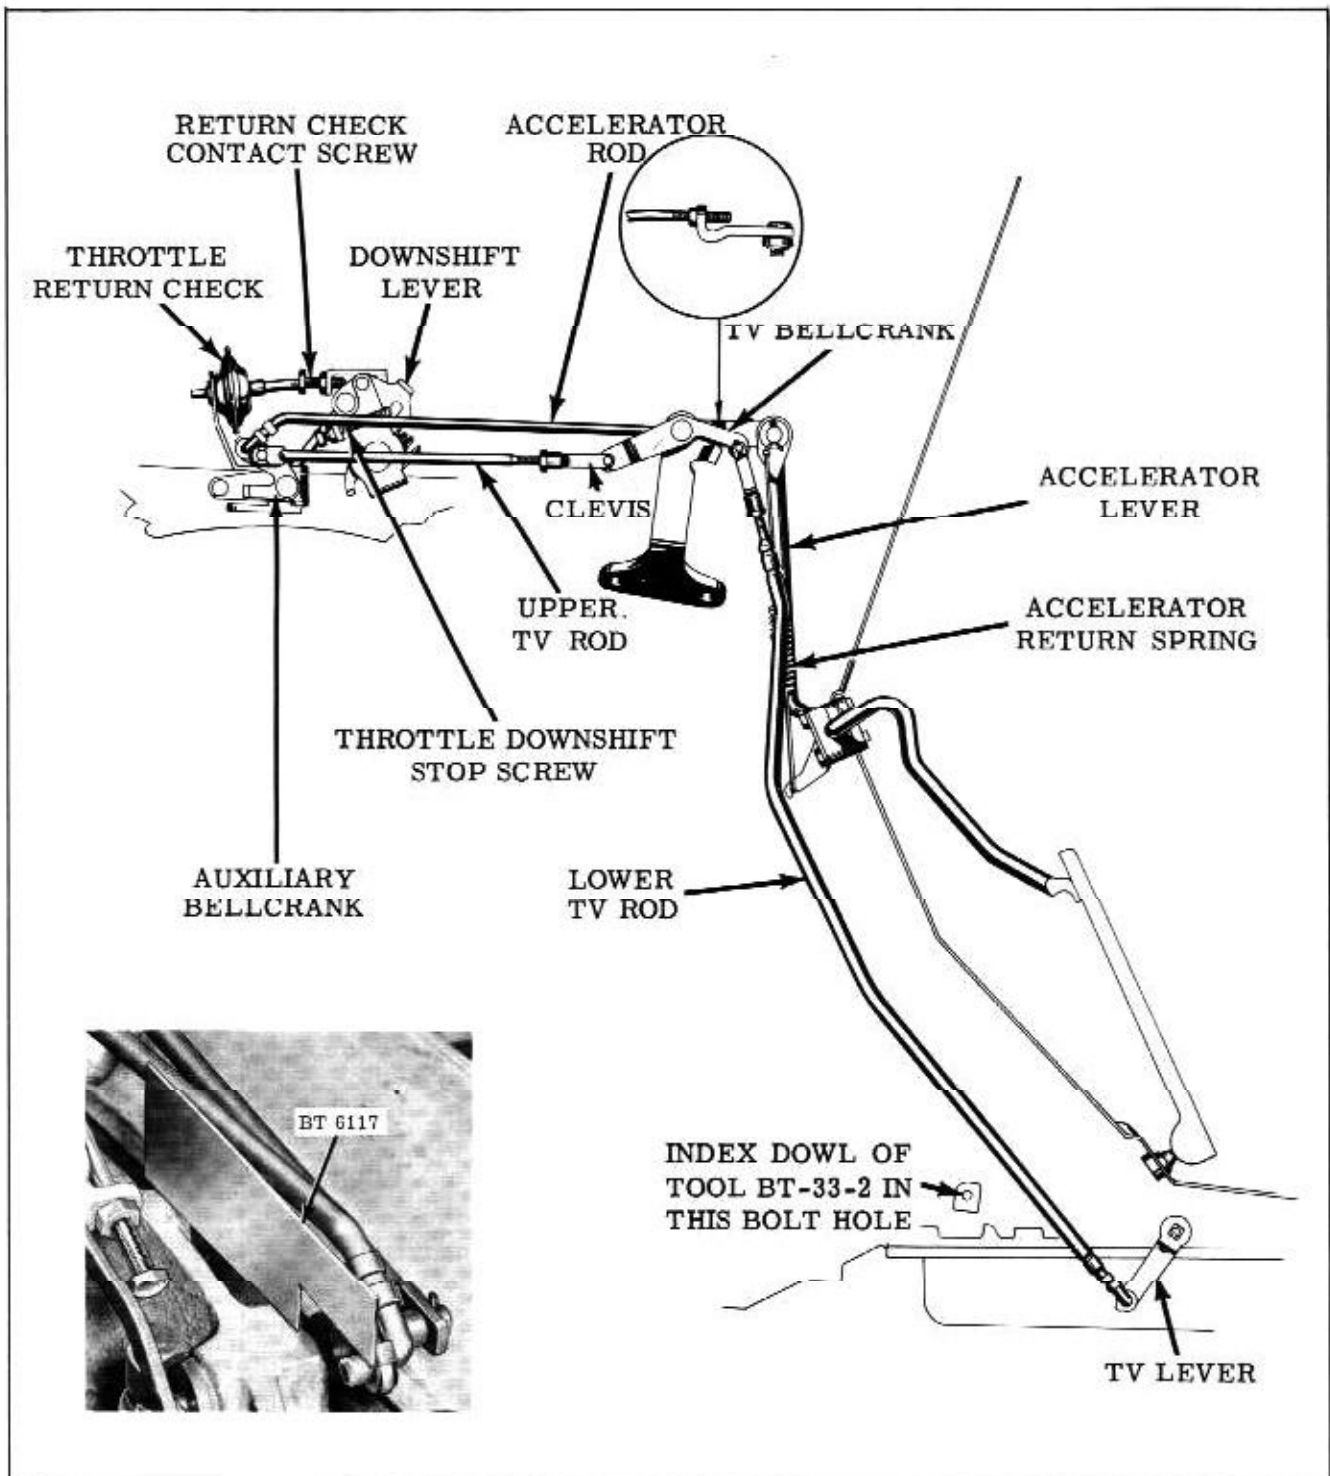

Fig. 3-129 Throttle Linkage
8. If necessary, bend auxiliary bellcrank link to adjust the bellcrank. Use Tool BT-6117 as shown in the inset in Fig. 3-129. With the tool on the machine surface of the manifold, the top of the rod should just touch the tool as shown.